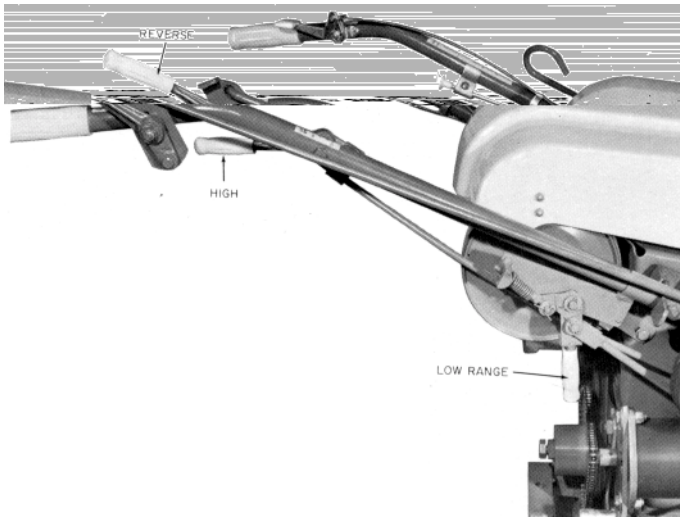
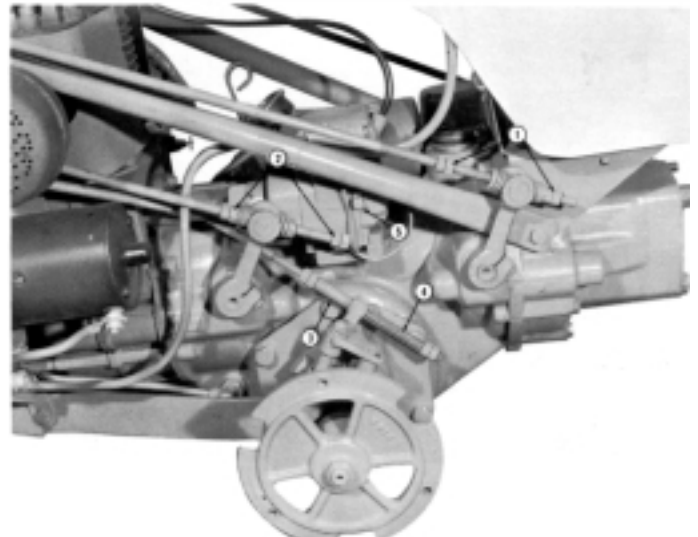

Figure 3
Figure 7
Engaging wheels - To put tractor in motion, first move the high-low control lever to either the high or low position (figure 3). Then move the forward-reverse control lever into forward or reverse. Depress the throttle to the desired speed.
-Ignition stop button is shorted out. To test, remove the ground wire from the magneto stop button and attempt to start the engine. See service manual or call your dealer. (See 5, figure 7.)
Clutch Rods - To adjust clutches, tighten the locknuts, 1 and 2 in Figure 7, until the clutch rod springs are compressed fully as each lever goes over center in the fully engaged position, either high or low gear or forward or reverse.
Range Selection Linkage -The toggle spring (locate y the range ever occasionally may require adjustment by tightening the hex nuts on the toggle rod until the spring is compressed to 15/16 inch (23.81 mm). Figure 3 and 4. To adjust springs, (3 and 4 in Figure 7), have the range selection lever engaged fully in high or low range, move the hex nuts (1 and 2 in Figure 7) on the spring rod until each spring is compressed 2 1/2 inches (63.5 mm).